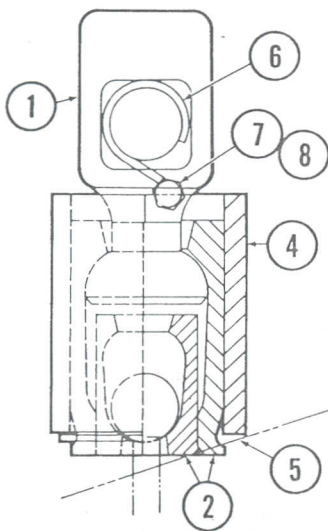

Figure 5-29A. Wire Rope Dead-Ending Trunnion
**WIRE ROPE TRUNNION REPLACEMENT.** Some hoists with 2 or 4-part reeving have the hoist rope dead-ended at a trunnion arrangement. The trunnion assembly is shown in Figure 5-29A. Use the following procedure to replace the trunnion or to disconnect and reconnect the wire rope.
1. Remove the snap ring (5) below the sleeve (4) covering the dead end assembly.
2. Slip the sleeve downward, exposing the two clamps (2) which couple the trunnion (1) to the wire rope dead end fitting.
4. The trunnion is now uncoupled from the rope assembly. Remove the two 1/4" cap screws (7) which retain the "S" hooks (6) and lift the trunnion out of the slot in the drum hanger.